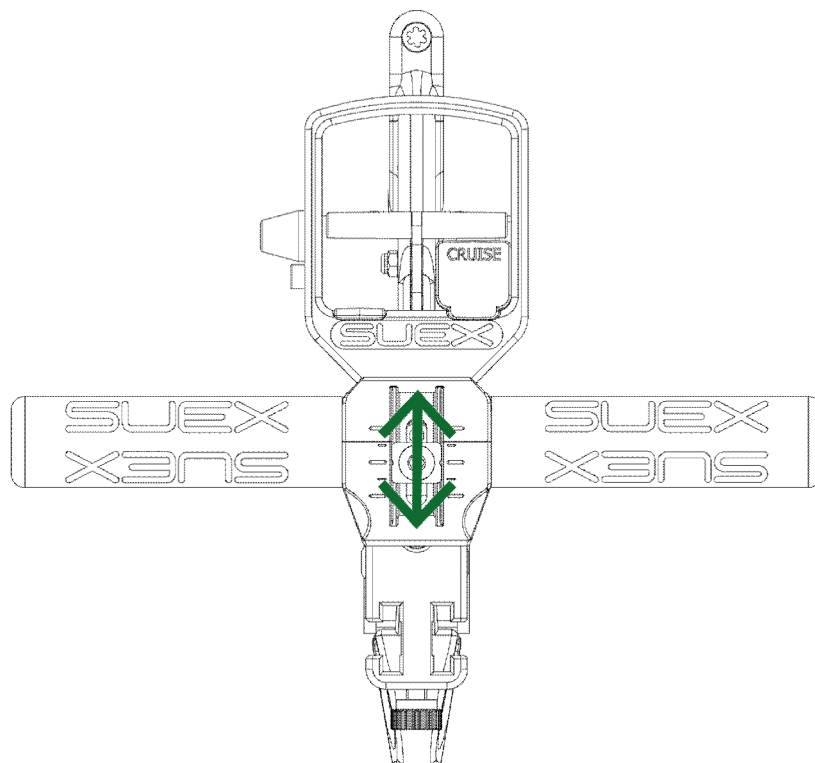

Fig 9 - Adjustment of handle position
- slide it downward to increase the distance from the trigger (for larger hand sizes) **Fig 9 - on p. 11**